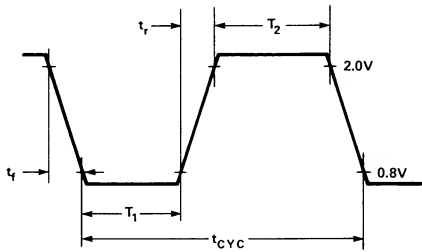

FIGURE 3. CLOCK SPECIFICATION FOR 8355.
*DATA BUS TIMING IS SHOWN IN FIGURE 3.